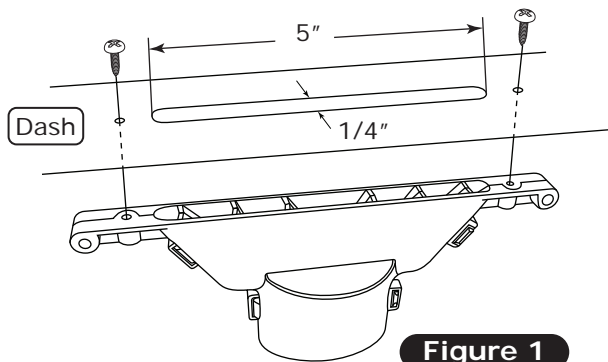

Figure 1
- Before beginning, remove cowl vent handle and glove box to ease installation. If the dash is easily removable, remove it now. Check for, and fill in any holes in the firewall and floor. Insulate and seal firewall, floor, door panels, and headliner to reduce the amount of heat entering the car. Figures 1 and 2, show the general location of the defrost ducts. Locations will vary. If your module is equipped with the defrost option, install the ducts now.